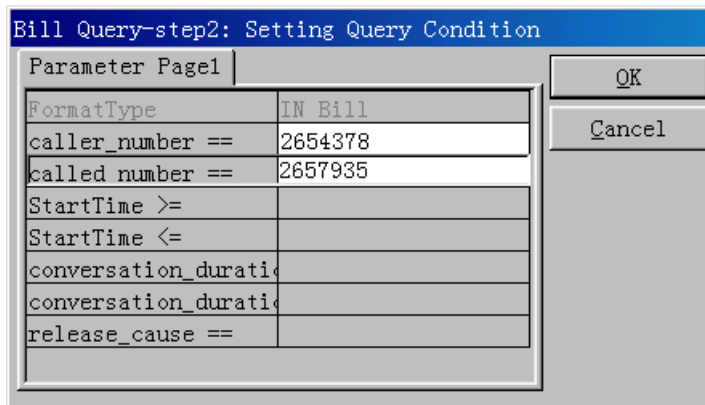

Figure 3-14 [Bill Query-step2: Setting Query Condition] dialog box
- 2) Select a desired CDR format. Click <Next Step>. The dialog box as shown in Figure 3-14 is displayed.